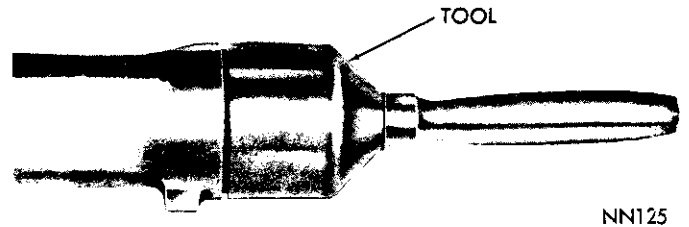

Fig. 13—Installing Extension Housing Yoke Seal
(4) Drive a new oil seal into housing with Tool C-3995 (Fig. 13).
- (4) To install a new seal, position seal in opening of extension housing and drive it into housing with Tool C-3995 (Fig. 13).
- (5) Carefully guide front universal joint yoke into extension housing and on the mainshaft splines. Connect propeller shaft to rear axle pinion shaft yoke.